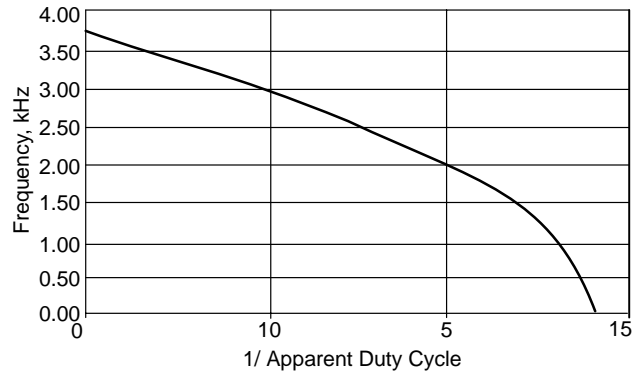

Figure 15. Normalized Input Filter Capacitor Ripple Current
- Calculate Input Filter Capacitor Ripple Current. Use the chart in Figure 15 to calculate the normalized ripple current (K_{RMS}) based on the reciprocal of Apparent Duty Cycle. Then multiply the input current by K_{RMS} to obtain the Input Filter Capacitor Ripple Current.